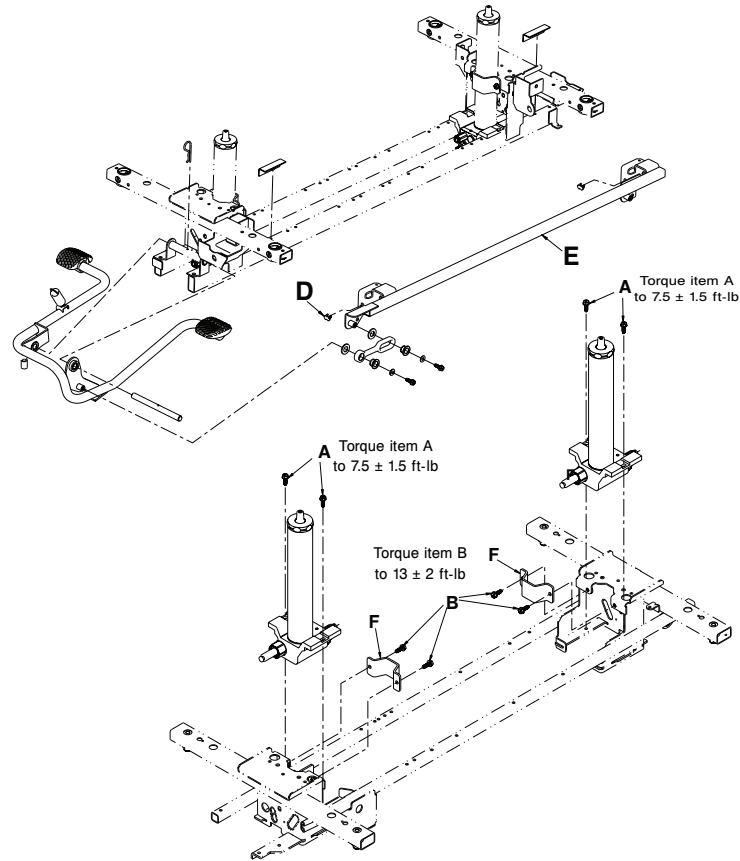

Figure 11 – Replace the jack
5. Using a 1/2" socket with a 3/8" drive extension and a 3/8" drive ratchet, remove the two hex washer head screws (B) that secure the head end jack and reservoir clamp (F) to the base frame (Figure 11). Remove the reservoir clamp. Save the hex washer head screws.